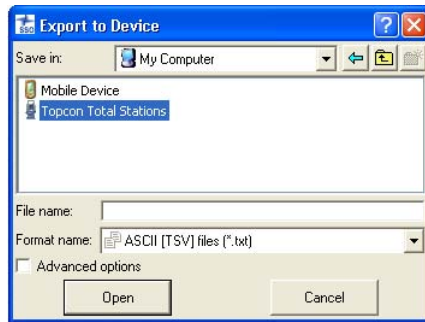

Figure 8-14. Export From Device Window
2. Double-click the *Topcon Total Stations* in the *Export to Device* dialog box (Figure 8-14).